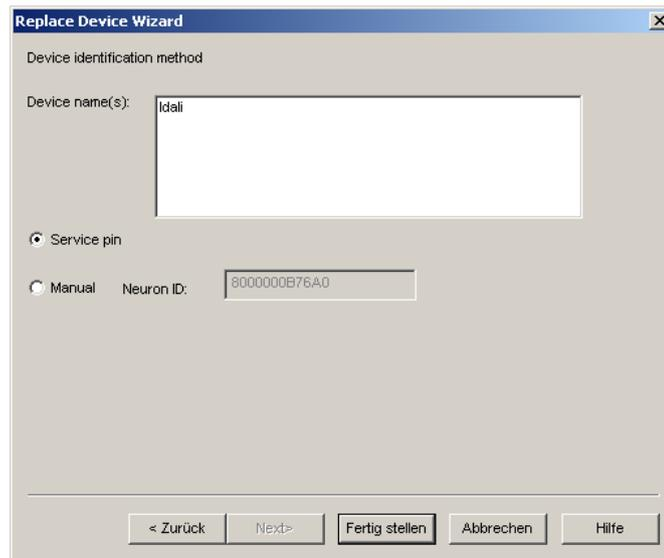

Figure 95: Select Service Pin and click Finish.
6. Select the **Service pin** method and click on **Finish** as shown in Figure 95.